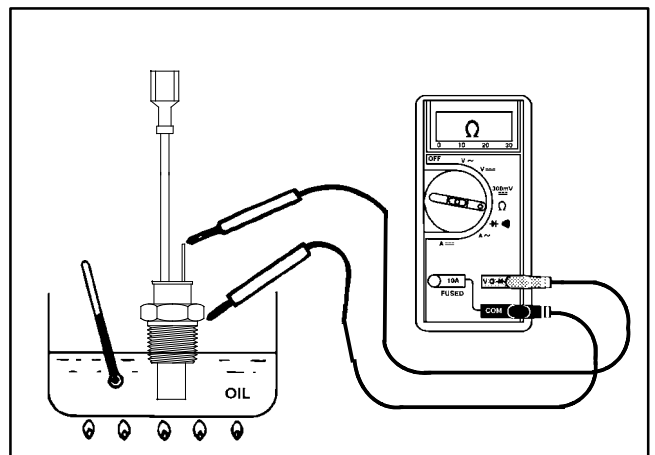

Figure 45
2. Put switch in a container of oil with a thermometer and slowly heat the oil (Fig. 45).